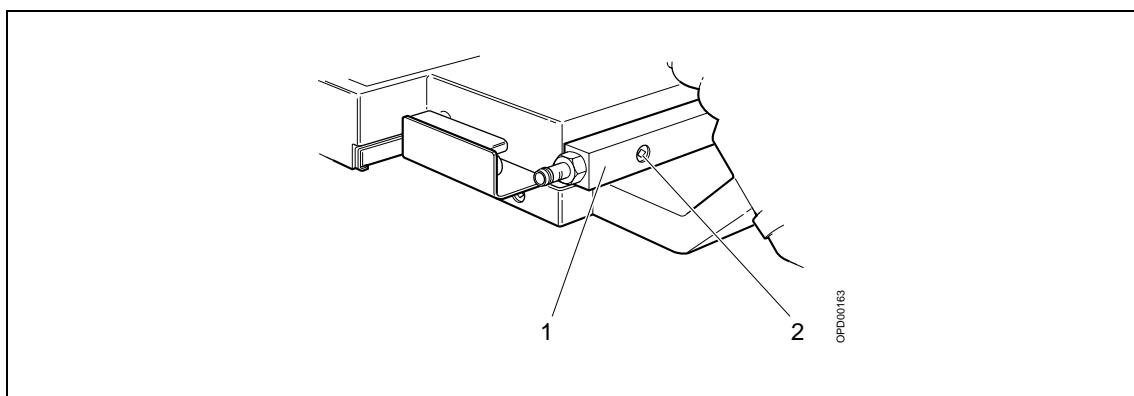

Fig. 7 Object table arm after installation
2. Install the holder (1/Fig. 7) with the pull relief device, using included Allen screws (2/Fig. 7).